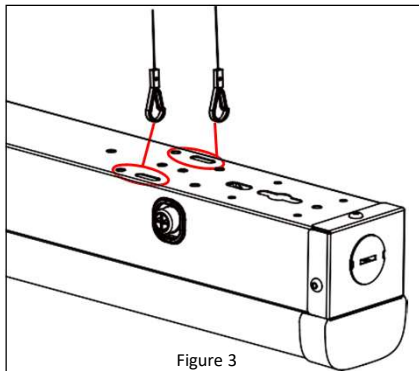

Figure 3
7. Attach the clips to the back of the fixture. *See Figure 3.*